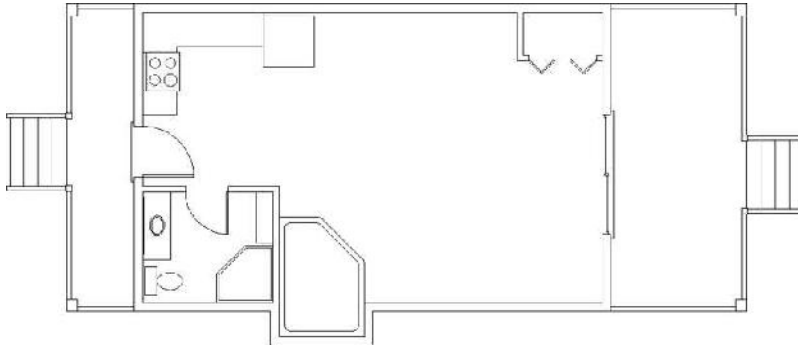

FIGURE 5.73: The completed floor plan zoomed to fill the screen
13. Zoom to the drawing's extents. Your cabin should look like Figure 5.73.